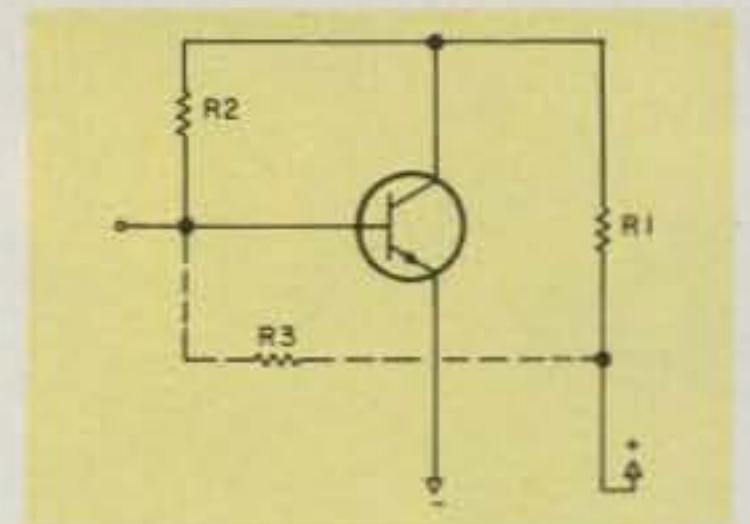

Fig. 10. A simple transistor bias circuit.
Look at the circuit in Fig. 10. Resistor R1 is the load resistance for the transistor. It has the same function as the tube load resistance (RL). R2 and R3 are different ways to introduce bias to the transistor. R2 is one of the more stable ways to do it. Transistors are prone to a number of screwball bad habits. Thermal runaway is one. When it gets hot, it draws more current and gets hotter and draws even more current and pffff!